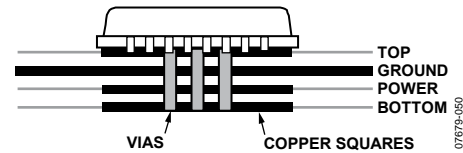

Figure 62. Exposed Pad Layout Example, Side View
- A copper layer equal in size to the exposed pad should be on all layers of the board, from top to bottom, and should connect somewhere to a dedicated copper board layer (see Figure 62).